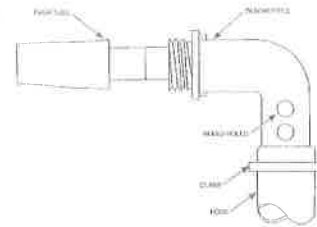

FIGURE 6
3. Refer to Figure 1. Uncoil the hose (3) and remove all twist. Using clamps (15), clamp one end of the hose to the back side of the fountainhead (1) and the other end to the Inlet adapter from step 2. Cover one set of bleed holes with the hose (Fig 6). To tighten clamp, grasp "tabs" between thumb and forefinger and squeeze. Tighten securely with a pair of pliers. To open the clamp, grip one "tab" of the clamp with pliers and twist loose.
4. Using the tie wrap (14), LOOSELY attach the anchor (4) to the hose (3). The anchor (4) should be attached to the hose (3) at a point as deep as the water plus approximately two feet. You will have to estimate what the water depth is where you want the fountain and add two feet. **CAUTION: DO NOT CONSTRICT THE HOSE BY TIGHTENING THE TIE WRAP (14) TOO TIGHT.**
6. Place the fountain assembly into the pool. Position the fountain in the desired location being careful not to crimp the hose (3).
2. Refer to Figure 6. Push the small end of the Push-In Tube (12) into the threaded end of the Elbow Piece (6) until it is secure. This is your Inlet adapter.
Height adjustment is achieved by covering more or less of the bleed holes (Fig 6) on your Elbow Piece (6) with the hose (3). The more holes covered, the higher the fountain and vice versa.